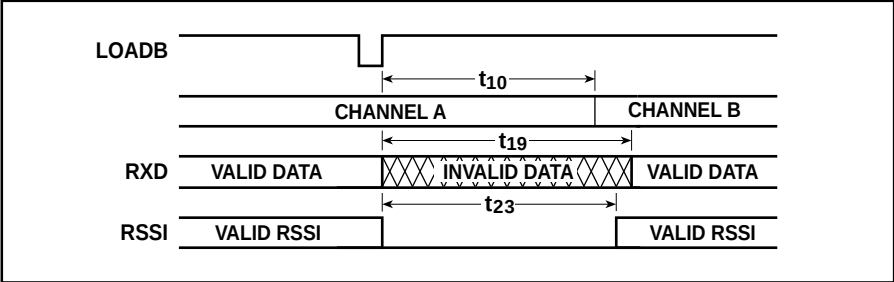

Fig. 6 Receive-channel hop-timing diagram (RX/TX = 1)
15.Frequency Hop Time to Valid Received Data (t_{19} – see Figs. 6 and 7)
24.Frequency Hop Time to Valid RSSI (t_{23} – see Fig. 6)